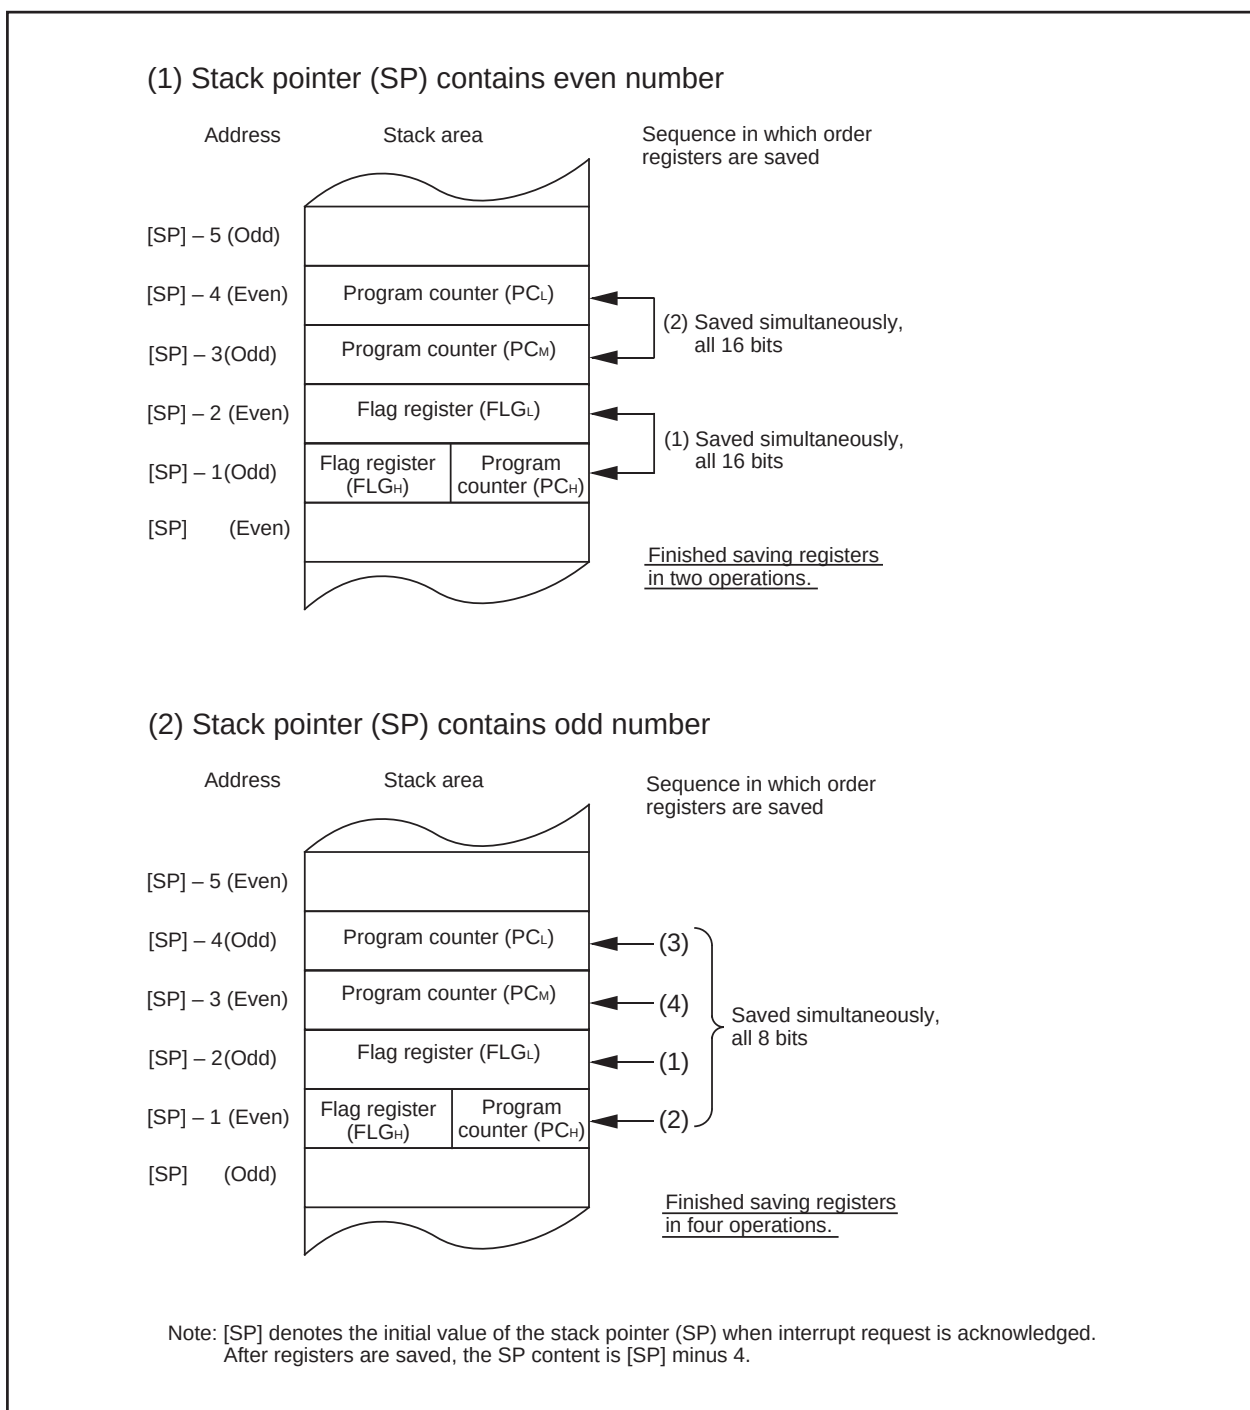

**Figure 2.7.7 Operation of saving registers**
The operation of saving registers carried out in the interrupt sequence is dependent on whether the content of the stack pointer, at the time of acceptance of an interrupt request, is even or odd. If the content of the stack pointer (Note) is even, the content of the flag register (FLG) and the content of the program counter (PC) are saved, 16 bits at a time. If odd, their contents are saved in two steps, 8 bits at a time. Figure 2.7.7 shows the operation of the saving registers.